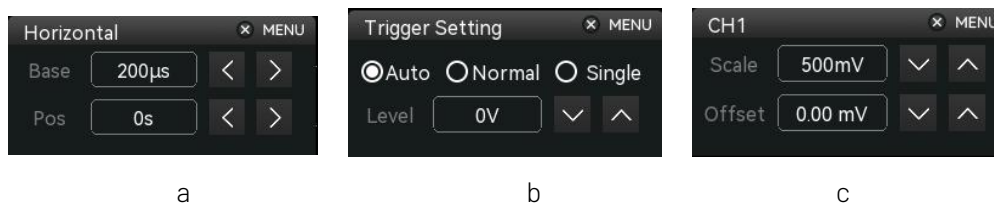

Figure 4-7
2. Time base scale: Indicates the amount of time represented by one grid, which can be adjusted by SCALE knob on the horizontal control area, a time base scale will pop up on the screen when the time base scale changes. Tap time base scale to pop out horizontal interface as show in Figure 4-7(a), time base scale can change by using numeric keypad, \leftarrow , \rightarrow and SCALE knob .
6. Horizontal displacement: Display the horizontal displacement value of waveform. Change this parameter by using POSITION knob on horizontal control area. Press POSITION knob on horizontal control area to make horizontal displacement value turn to 0. Tap time base scale to pop out horizontal interface as show in Figure 4-7(a), horizontal displacement value can change by using numeric keypad, \leftarrow , \rightarrow and POSITION knob.
- f. Tap trigger status area to pop out trigger setting interface as shown in Figure 4-7(b). Trigger level value and trigger coupling mode can change by using numeric keypad, \leftarrow , \rightarrow and LEVEL knob.
- g. Tap vertical state area to pop out channel 1 interface as shown in Figure 4-7 (c) Volts/div scale, vertical displacement value can be changed by using numeric keypad, ,  and vertical SCALE knob and vertical Position knob.